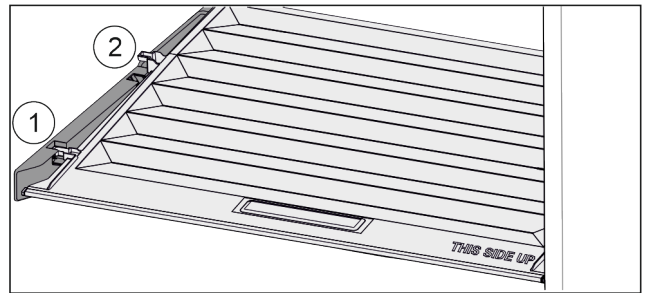

Fig. 38
- ▶ Pull the lid up at the front in the retaining parts to the opening Fig. 38 (1).
- ▶ Lift from the back and pull it up and out Fig. 38 (2).